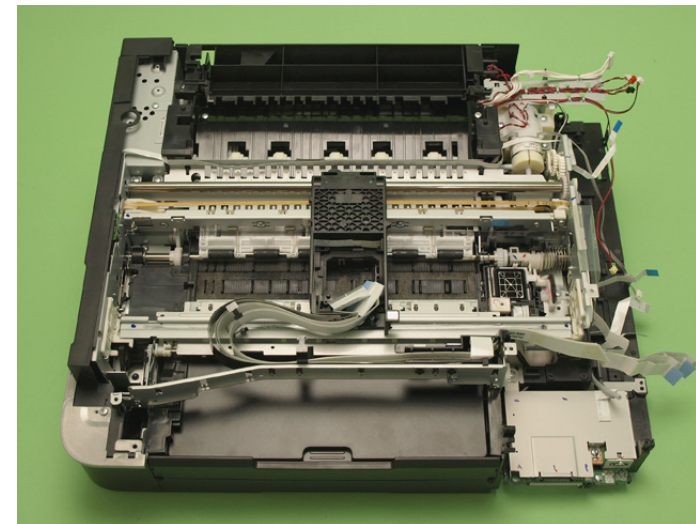

Figure 4-2. After Removing the Head Supply Assy
3. Remove the Printhead together with the Ink Supply IC Holder Assy. (See *Fig. 4-2.*)